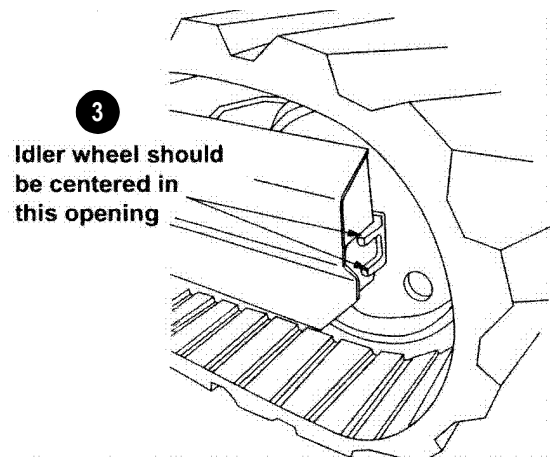

Figure 4-31 – Track Adjustment
3. On newer machines, move the left track until mark (1, Figure 4-31) is at the center of the top span.
4. On earlier machines, remove side plate (3) from the left track to expose the adjustment fitting.
5. On newer machines, there should be 1/2" – 3/4" (15 – 20 mm) play between the contact area of support roller (2) and the track shoulder.
6. On earlier machines, idler wheel (3) should be centered as shown in the figure.